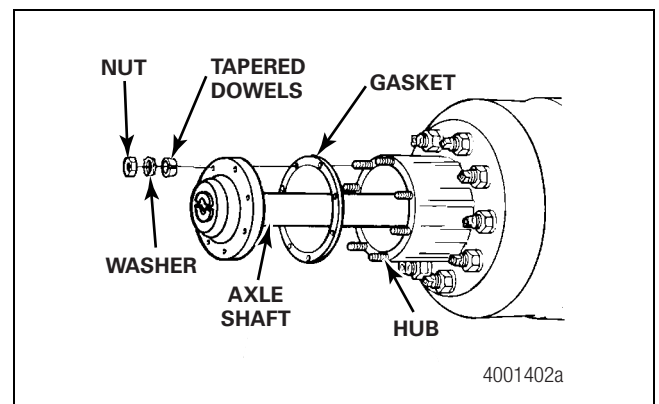

Figure 5.6
12. Install the tapered dowels at each stud and into the axle shaft flange. Use a punch or a drift and hammer if necessary. Figure 5.6.